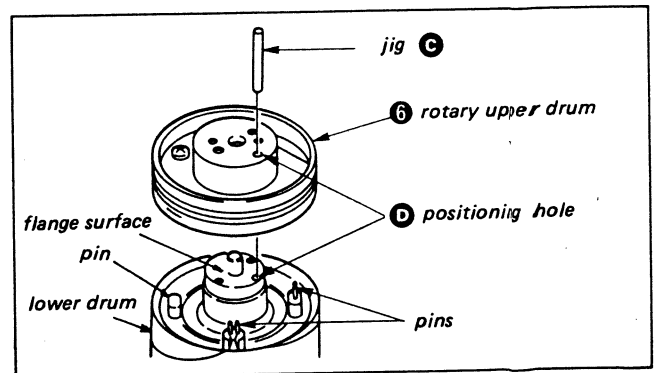

Fig. 3-44.
- 2) Use jig C (Ref No. J-10) to line up rotary upper drum ⑥ and the positioning hole D, and lightly insert the rotary upper drum. At this time make sure that the pins come above the rotary upper drum board. Fix with tweezers if the pins catch. (Fig. 3-44)